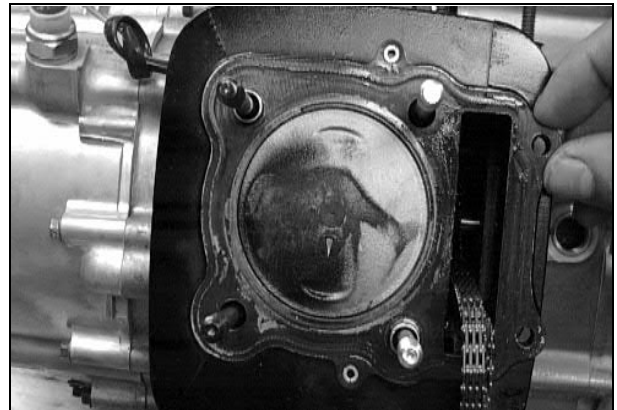

Fig. 45
9. Remove the cylinder head from the cylinder, remove the gasket, and account for two alignment pins, (Fig. 45).